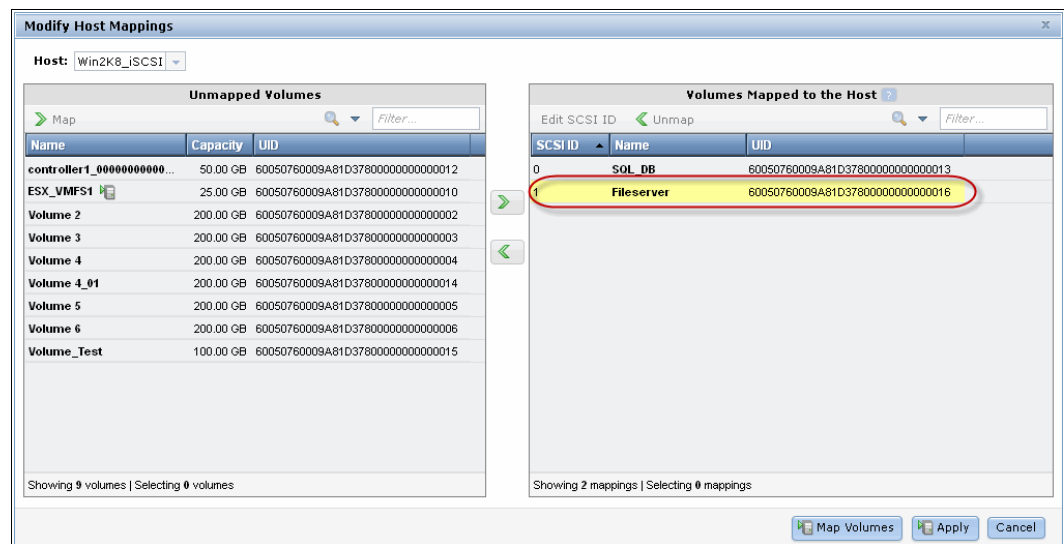

Figure 5-27 Modify host mappings window
4. Click the right-pointing arrow and the volume is moved to Volumes Mapped to the Host pane on the right side, as shown in Figure 5-27. Repeat this step for all of the volumes that you want to map and then click **Map Volumes**.